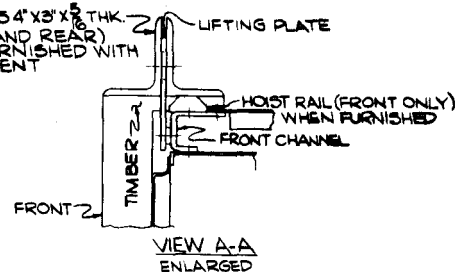
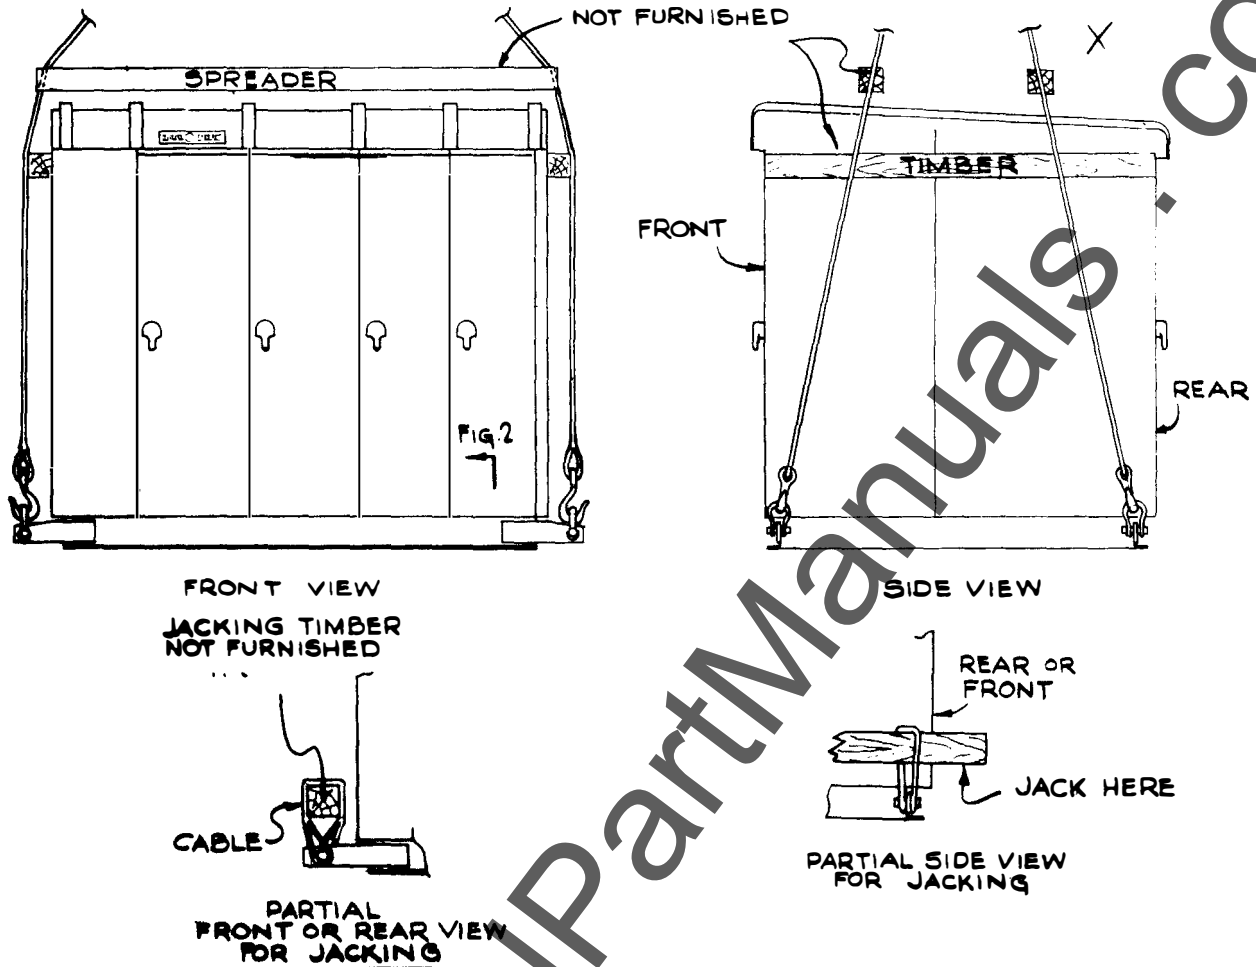

Fig. 9 (0673D0500-002-5) Methods Of Handling Indoor Equipment.
Fig. 10 (0673D0500-003-B) Methods Of Handling Outdoor Equipment.
The switchgear units, may be most conveniently handled by a crane. Removable lugs are provided on top of the switchgear. If the installer uses a crane for lifting a cable spreader must be used to obtain a vertical pull on the lifting lugs. Recommended lifting methods are shown in Figs. 9 and 10.
CAUTION: Be sure the rollers used are spaced such that the three channels rest on top of the rollers, as a direct application of the rollers between the channels may tear or distort the equipment. Jacks may also be applied to handle the equipment when a crane is not available, as shown in Figs. 9 and 10.
Methods of handling outdoor switchgear, shown in Fig. 10, are much the same as for indoor equipments except that lifting plates are provided at the base of the structure. The lifting plates should be removed after the equipment is permanently anchored, so that passageway at the ends of the equipment will not be obstructed.
2. The switchgear packages should be placed on its foundation with the aid of crane or jacks as shown in Fig. 9 for indoor equipment and Fig. 10 for outdoor equipment.